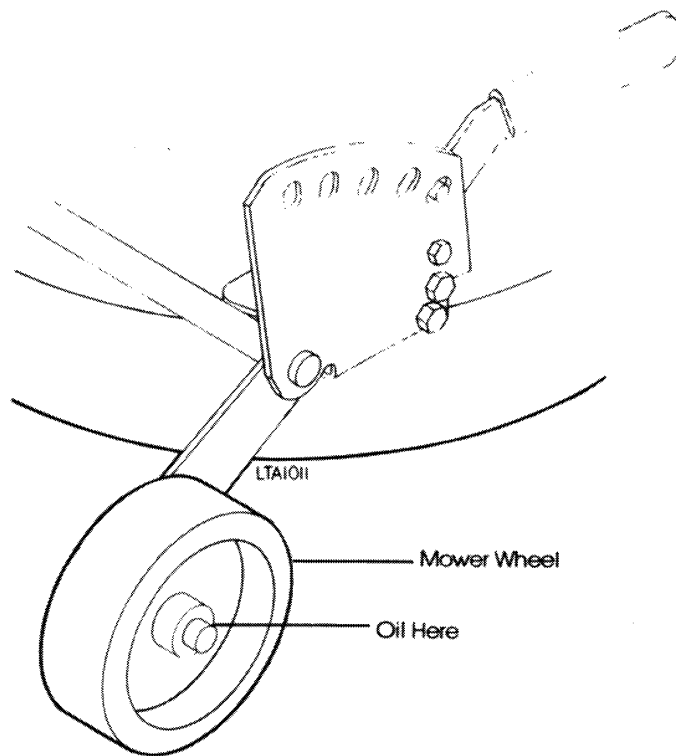

FIG. 3.1A
- A. Mower Wheels: Oil shaft liberally, turning wheels to work oil in (Fig. 3.1A). If wheels become tight; remove wheels, clean shafts and oil using SAE #30 engine oil.